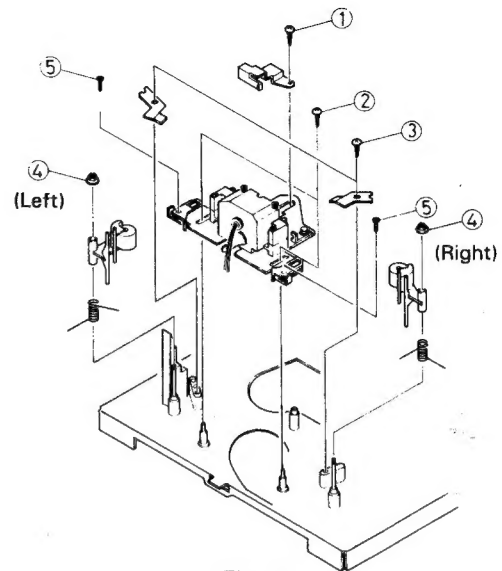

Fig. 4
1. Pinch roller (left) (Fig. 4).
2. Pinch roller (right) (Fig. 4)
- 1) Unscrew adjusting screw (4) : VKS4513-001 securing the pinch roller arm Ass'y.
3. Replacing the head Ass'y (Fig. 4)
1. Perform procedures 1 through 3 above. (Fig. 4)